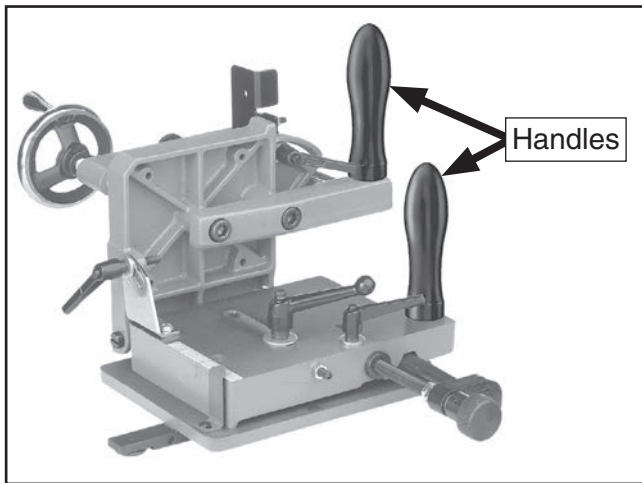

Figure 6. Handles installed.
2. Install handles into threaded holes on clamp brace and slide plate, as shown in **Figure 6**.